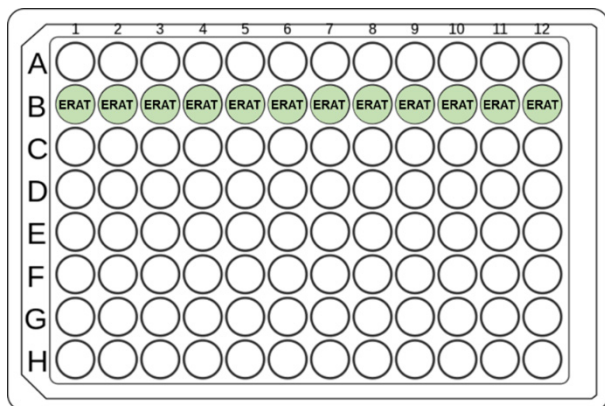

Figure 22: Fragmentation Master Mix (ERAT) in Library Prep Master Mix Plate.
6. Using a single-channel pipette, aliquot the **Fragmentation Master Mix (ERAT)** evenly across all 12 wells of Row B of the 96-well **Library Prep Master Mix Plate** (Figure 22). Seal the plate and briefly spin to collect all liquid in the bottom of the wells, and place on ice. Ensure there are no bubbles present in the bottom of the wells.